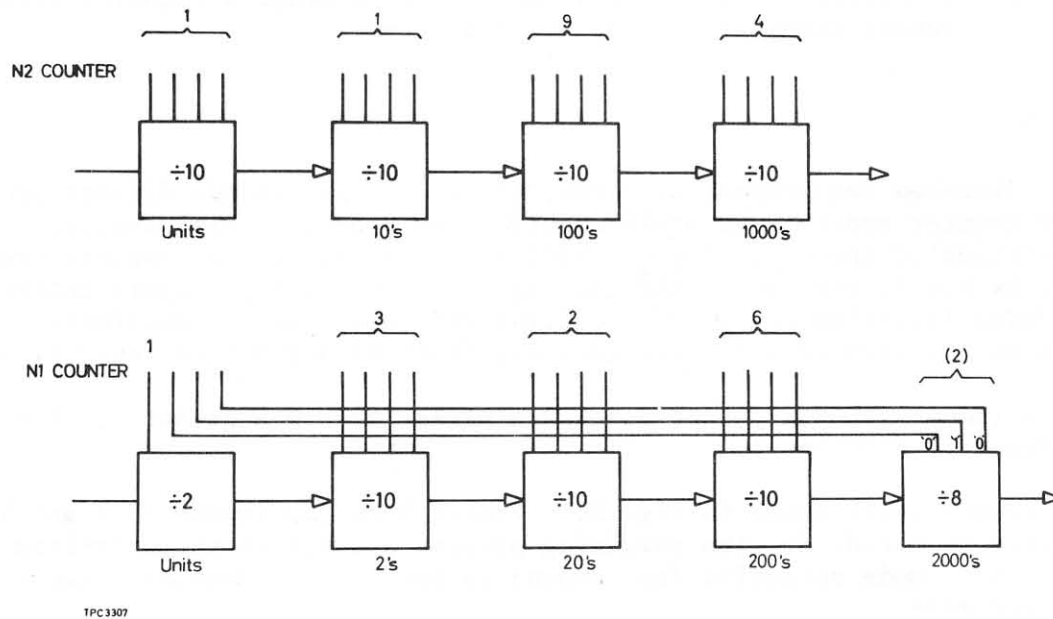

Fig. 6 Presettable counters - example showing counter presets for an r.f. of 19,236,235 Hz
14. Fig. 6 shows a presettable counter example where dividers N1 and N2 are preset for an r.f. input of 19,236,235 Hz. For the purpose of the example the local oscillator output frequency may be expressed by :-